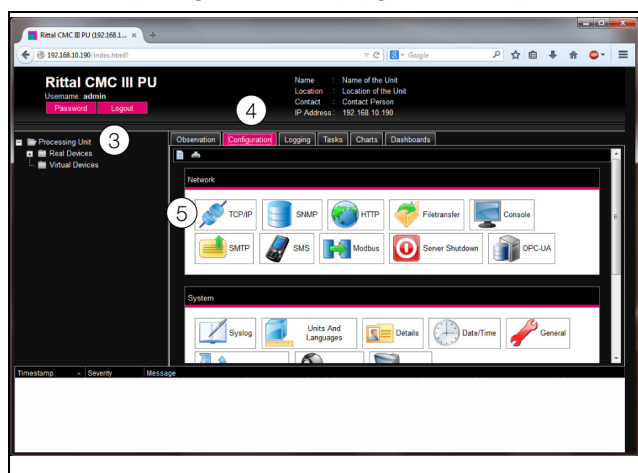

Fig. 13: Customising the TCP/IP settings
The overview page of the device appears (fig. 13).
- Click the **Processing Unit** entry in the left-hand sub-area (navigation area) of the overview window (fig. 13, item 3) and the **Configuration** tab in the right-hand subarea (configuration area) (fig. 13, item 4).
- Click the **TCP/IP** button in the **Network** group frame (fig. 13, item 5).